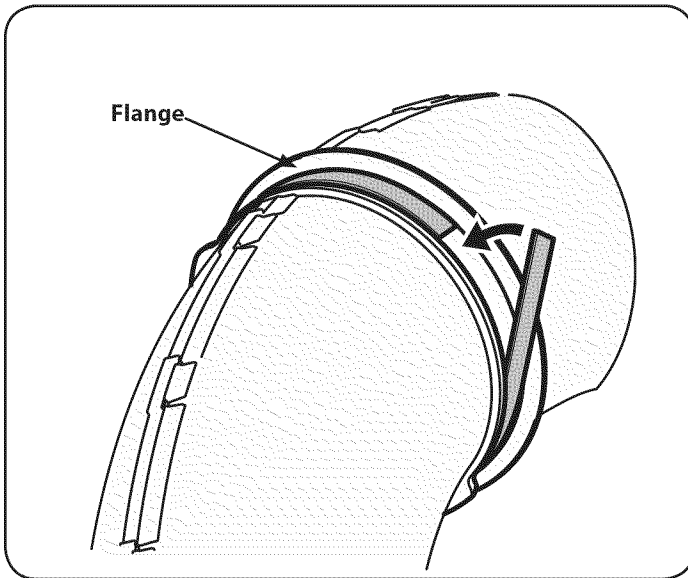

Figure 15
1. Peel the backing off of the self-adhesive foam strip (721-04388) that has been included with your grass collector. Apply it to the upper chute, flush against the flange as shown in Figure 15.